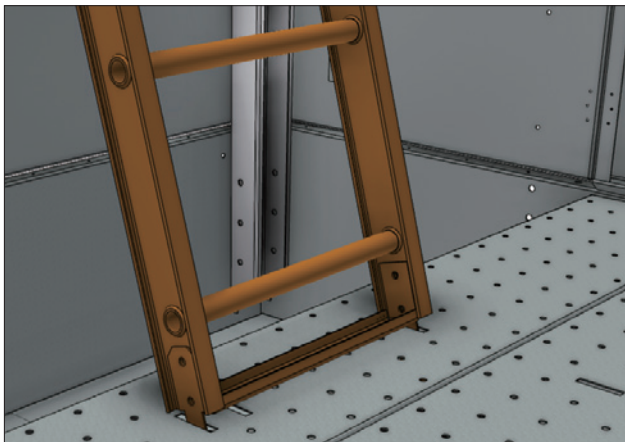

Figure 15b. Lower Section
2. Lift the ladder guiding the bottom posts into the slots on the walkway. See **Figure 15b**.